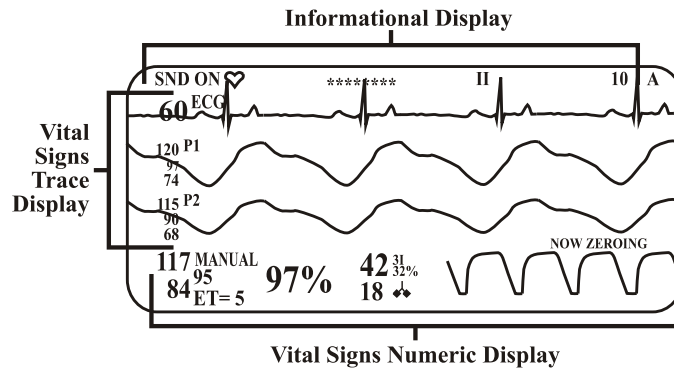

Figure 1-3. The Normal Screen
- i. **EtCO2 ZERO/OFF. (Item 9)** The **EtCO2 ZERO/OFF** Control Key allows the operator to initiate a rezero of the EtCO2 System when pressed momentarily and, when pressed and held for three (3) seconds, will turn EtCO2 ON or OFF.
1.4.2 Flat Panel Display. The Flat Panel Display Screen displays up to four (4) Parameter Waveforms of approximately five (5) seconds of patient data. The Normal Screen (See **Figure 1-3**) contains three (3) different display groups: the first located along the top of the screen and is called the **Informational Display**, the second is located in the middle of the screen is called the **Vital Signs Trace Display** and the third is located at the bottom of the screen and is called the **Vital Signs Numeric Display**.